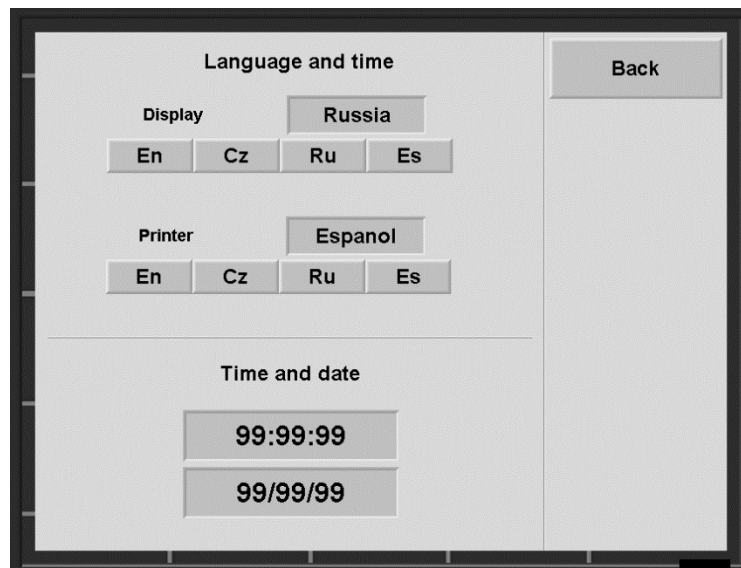

Fig. 11
- In addition this screen enables to modify the current date and time (Fig. 11).